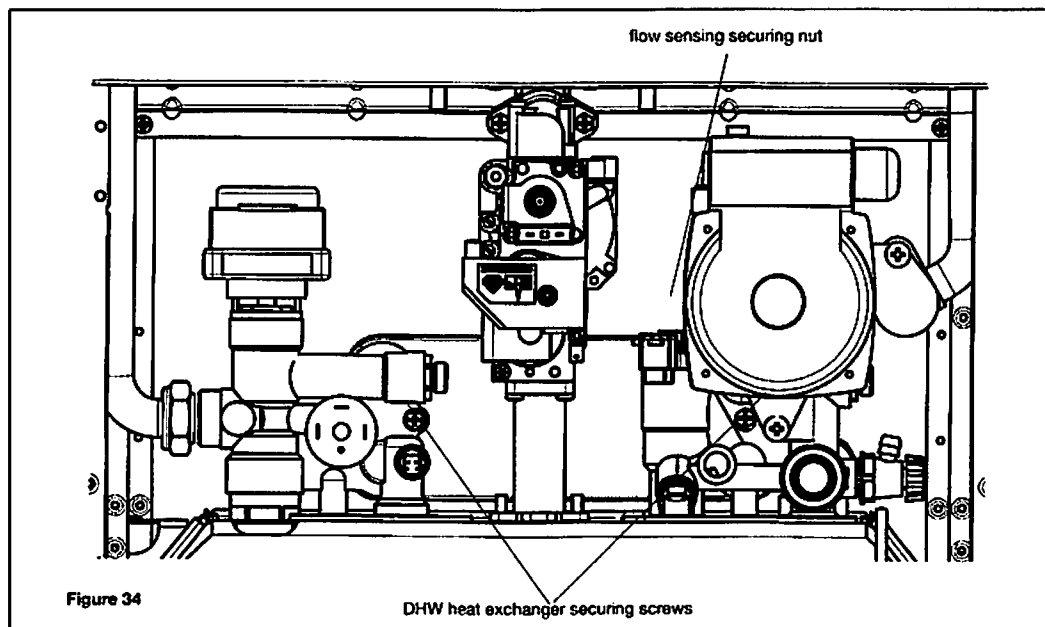

Figure 34
- remove the two screws (right in front of you) securing the DHW heat exchanger and pull it off its seat (figure 34).
- unscrew the nut on the flow sensing assembly (Figure 34);